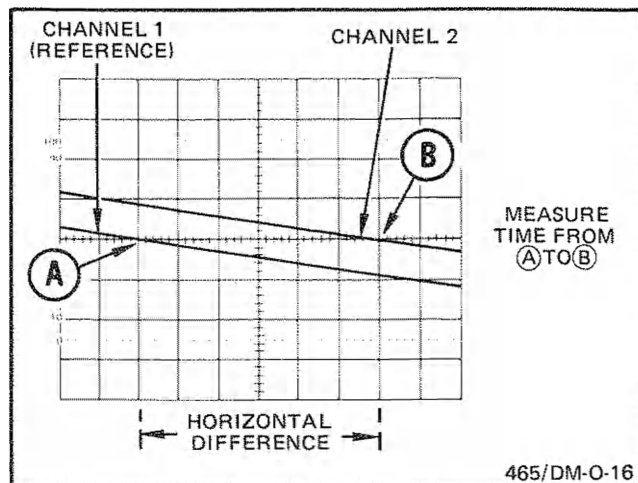

Figure 20. High-resolution phase difference.
**EXAMPLE:** If the sweep rate were increased 10 times with the magnifier (X10 MAG push button in), the magnified horizontal graticule calibration would be  $45^\circ$  /division divided by 10 (or  $4.5^\circ$  /division). Figure 20